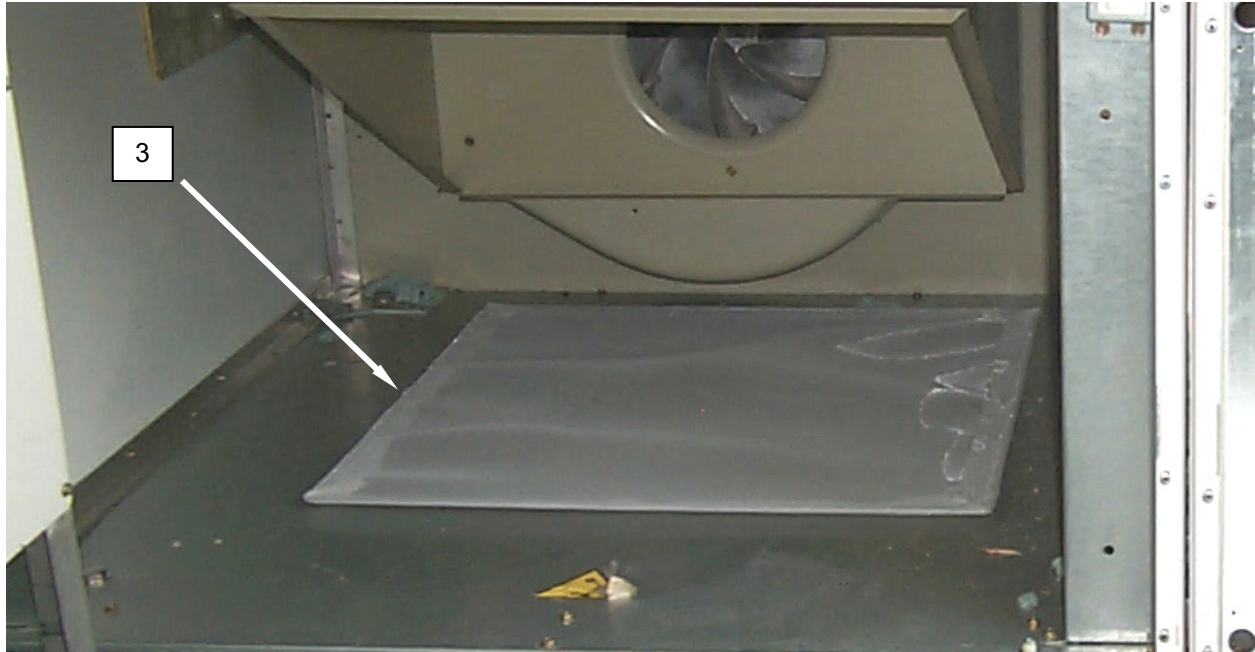

Figure 3. Placing the Lint Screens for Full Packout.
7. Remove lint screens (including spare lint screens) (**Figure 3, Item 3**) and lay flat underneath the dryer.